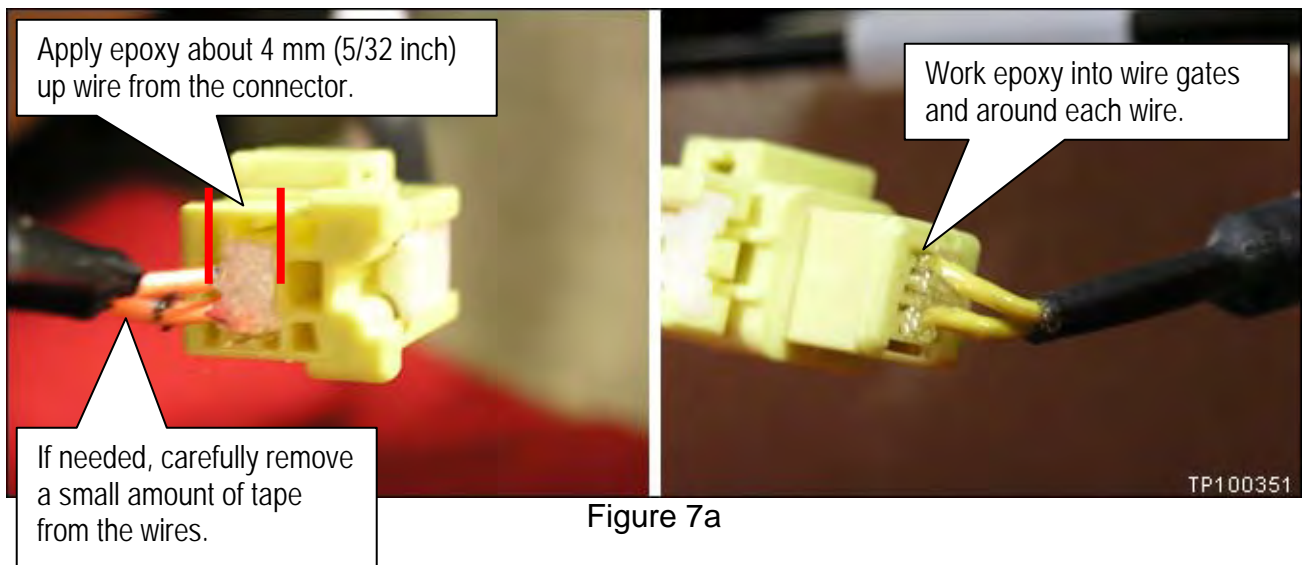

Figure 7a
9. Apply the epoxy to the back side (wire gates) of the SAB connector (see Figure 7a).